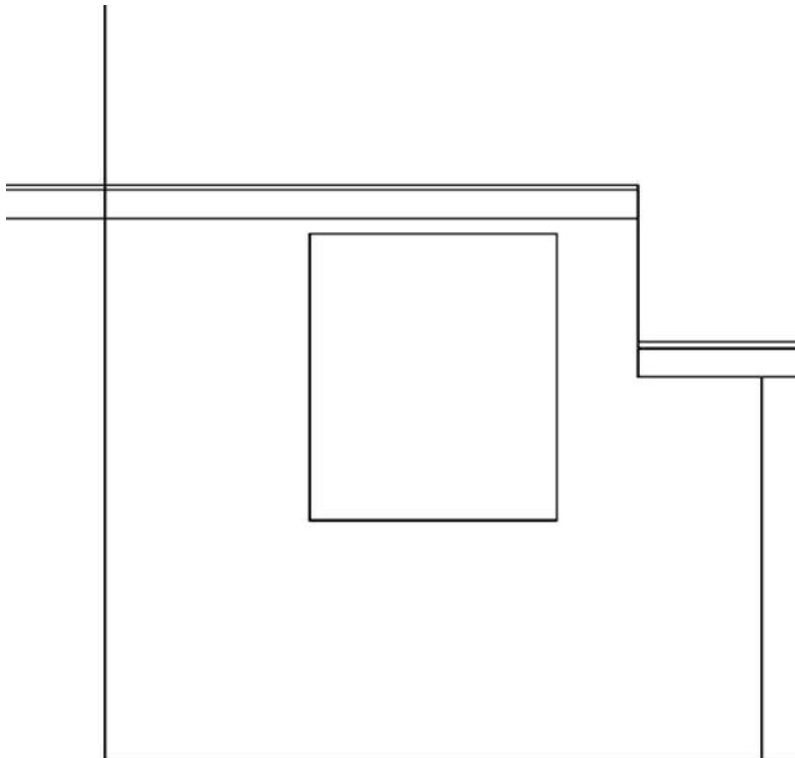

FIGURE 10.14: Using the FILLET command to complete the bathroom window
20. Using a Fillet radius of 0, fillet each of the four corners of the bathroom window, as shown in Figure 10.14.